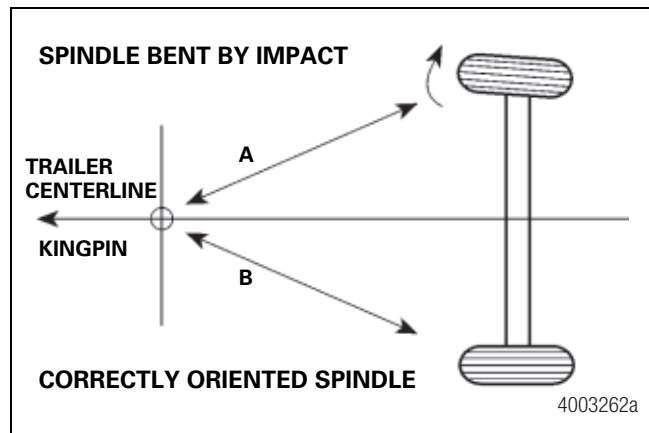

Figure 8.18
- A trailer in which the curbside front spindle has been bent into an excessive toe-out condition is shown in Figure 8.18. If this bent axle is oriented so the “A” and “B” dimensions are equal: